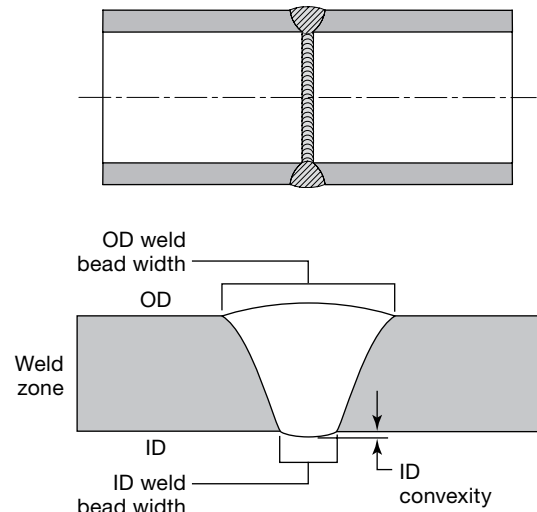

Fig. 68—Acceptable Weld
Figure 68 illustrates an acceptable weld: continuous full penetration from the outside diameter (OD) to the inside diameter (ID); a crown on the OD; and minimal weld bead convexity on the ID.